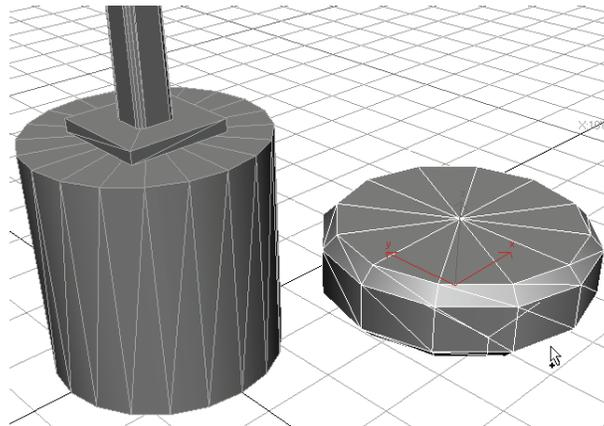

Figure 3–13
2. Next to the base (LP Base), click and drag the left mouse button to size the radius to roughly **2'0"** (Keep looking in the Parameters rollout in the Command Panel where the Radius changes interactively as you move your mouse). After releasing the mouse button, move your cursor up the screen slightly to give the cylinder a height of approximately **1'0"**. Click a second time to set the cylinder height. Then move the cursor up and down the screen until you can roughly define a **0'2"** fillet. Complete the object creation process with a third click. The object should display as shown in Figure 3–13.
3. With the object, **ChamferCyl**, still selected, in the Command Panel, select the *Modify* tab (  ) and modify the parameters, as shown in Figure 3–14.